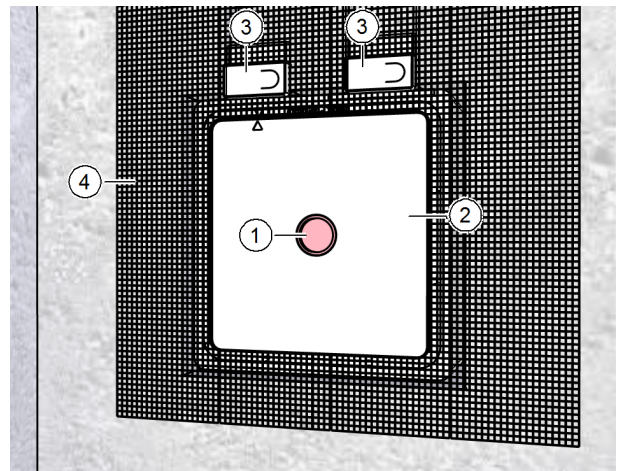

Fig. 19: Plastering the wall box on the inside
- ▶ Make sure that the signal cover (item 1 in Fig. 19) is seated in the protective cover (item 2 in Fig. 19).
- ▶ Make sure that the protective cover (item 3 in Fig. 19) is seated in the 90° brackets.
- ▶ Apply the plaster scrim M-WRG-PG (item 4 in Fig. 19) to the wall box and the solid wall.